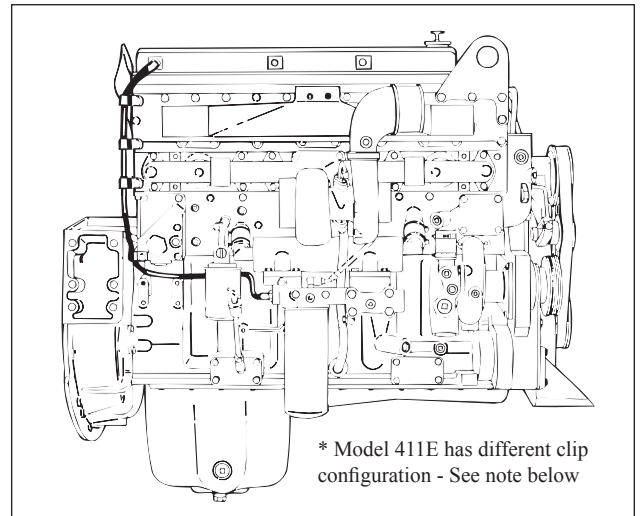

FIG. 17
2. Connect the external hose to the bulkhead fitting in the spacer. Install the hose clamps and attach to the bolt in the intake manifold (Fig.17).